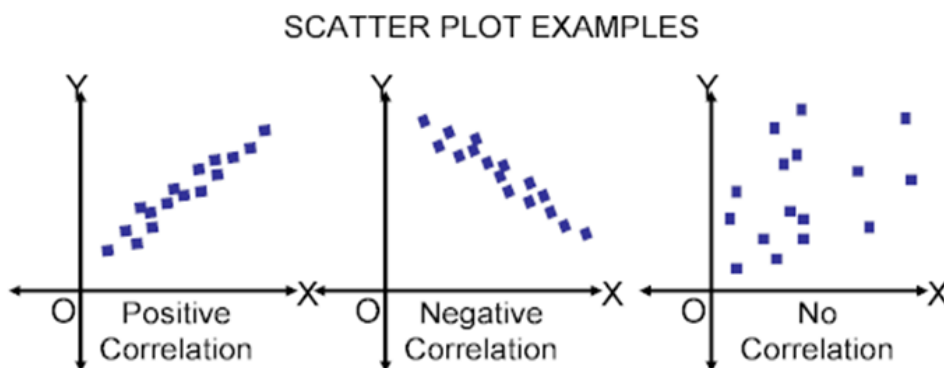

**Figure 5: The cause and effect diagram (Fishbone Diagram)**
Kaoru Ishikawa is considered by many researchers to be the founder and first promoter of the 'Fishbone' diagram (or Cause-and-Effect Diagram) for root cause analysis and the concept of Quality Control (QC) circles. Cause and effect diagram was developed by Dr. Kaoru Ishikawa in 1943. It has also two other names that are Ishikawa diagram and fishbone because the shape of the diagram looks like the skeleton of a fish to identify quality problems based on their degree of importance. The cause and effect diagram is a problem-solving tool that investigates and analyzes systematically all the potential or real causes that result in a single effect. On the other hand, it is an efficient tool that equips the organization's management to explore for the possible causes of a problem. This diagram can provide the problem-solving efforts by "gathering and organizing the possible causes, reaching a common understanding of the problem, exposing gaps in existing knowledge, ranking the most probable causes, and studying each cause". The generic categories of the cause and effect diagram are usually six elements (causes) such as environment, materials, machine, measurement, man, and method, as indicated in Figure 5. Furthermore, "potential causes" can be indicated by arrows entering the main cause arrow.